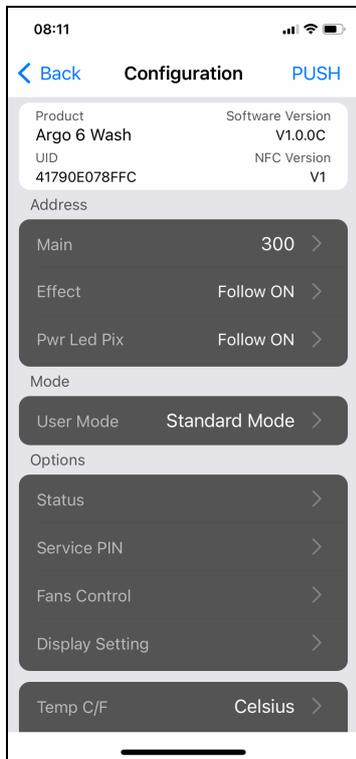
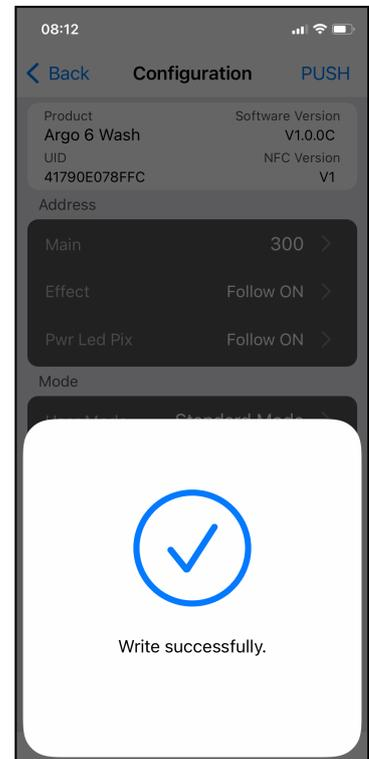

Figure 6
Figure 8
3) Tap 'PUSH' on the upper right corner (Figure 6, 7) and place the NFC scan area of your mobile phone close to the NFC tag area of the fixture to write into the NFC tag (Figure 8).